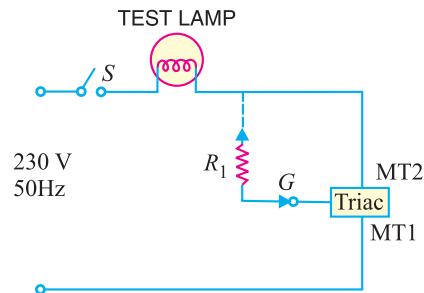

Fig. 21.13
**Solution.** Fig. 21.13 shows a simple circuit for testing a triac. The test lamp serves two purposes. First, it is a visual indicator of current conduction. Secondly, it limits current through the triac.